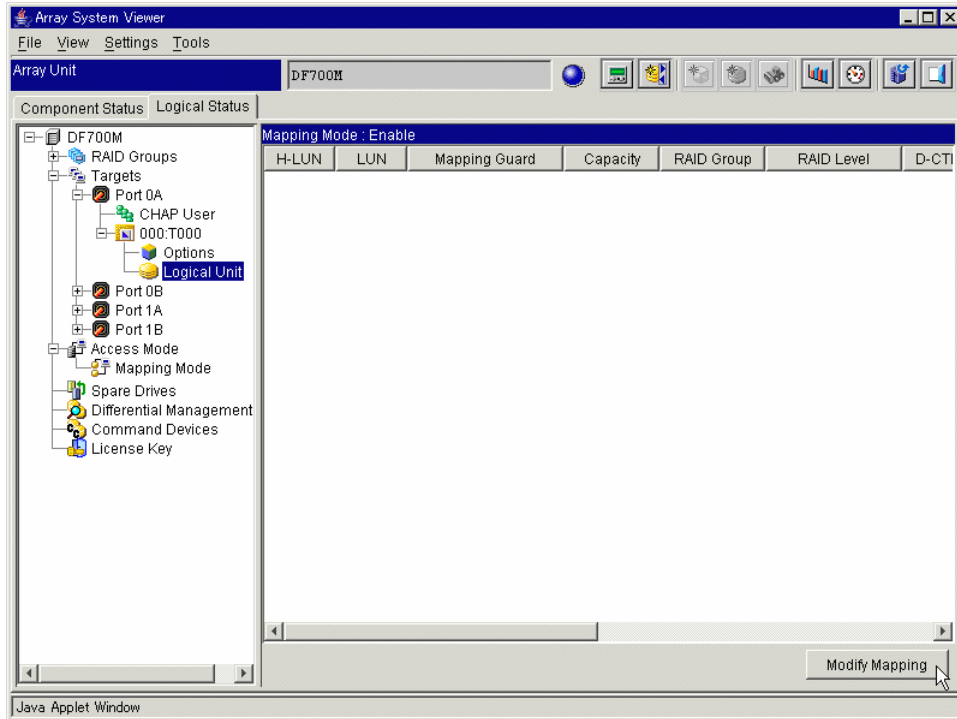

Figure 7.8 Array System Viewer - Logical Unit
3. Select the **Logical Unit** icon. See Figure 7.8.